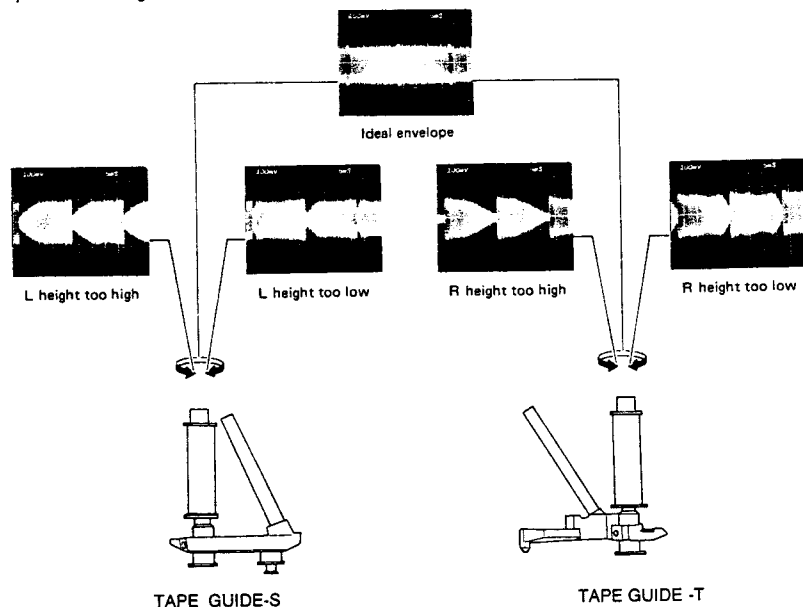

Fig. 4-4
- Turn the GUIDE ROLLER's head with a hexagonal screw driver to obtain a flat RF envelope, as the ideal envelope shown in Fig.4-4.